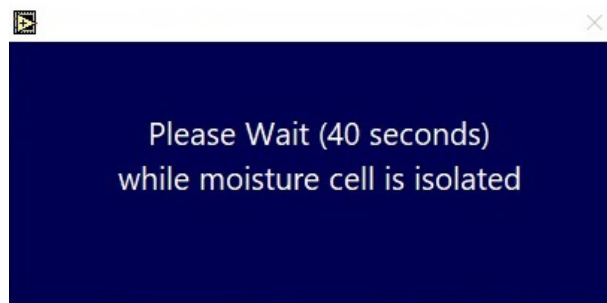

Figure 25: Isolate Warning
- **Isolate Sensor** closes the upstream and downstream valves for the moisture cell. This is done to prevent moisture contamination of the cell when in transport or for changing process lines. When **Isolate Sensor** is selected, the isolation valves are closed, and a message is displayed (see **Figure 25**) advising the user to wait 40 seconds for the moisture cell to be fully isolated.